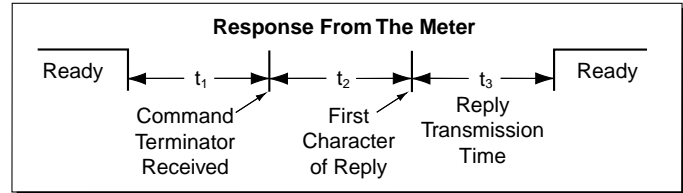

Figure 5 – Timing Diagram
See Figure 5. At the start of the time interval  $t_1$ , the sending device (PC) prints or writes the string to the com port, thus initiating a transmission. During  $t_1$  the command characters are under transmission and at the end of this period the command terminating character is received by the controller. The time duration of time interval  $t_1$  is dependent on the number of characters and baud rate of the channel: